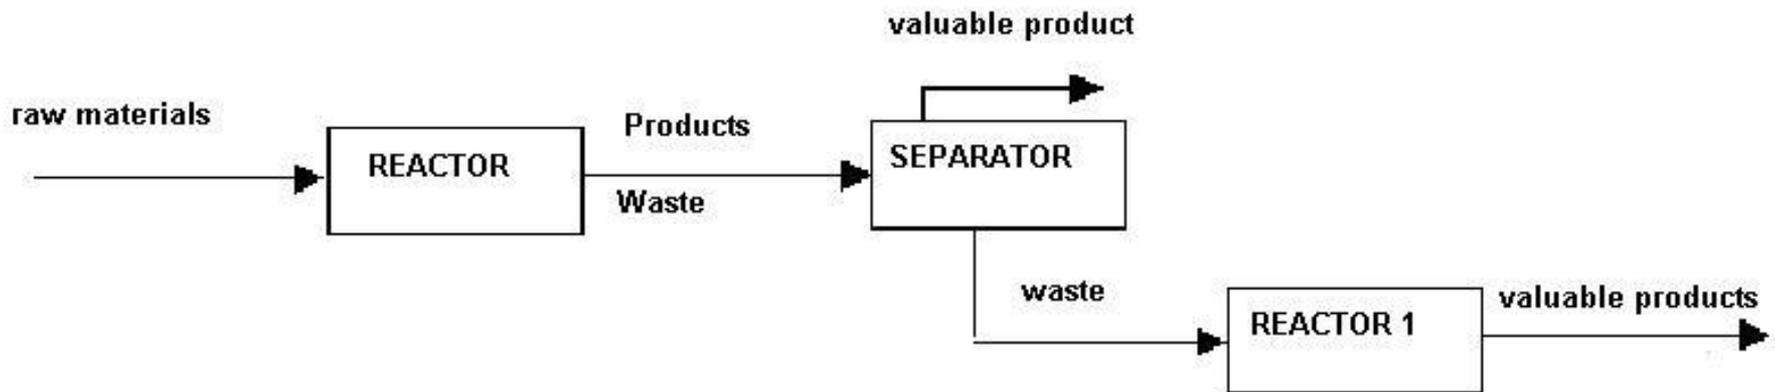

Fig. 5.5. On-site recycling
- **on site recycling:** the output is sent to a separator, while the unprocessed raw materials are sent as raw materials to another process (Reactor 1) belonging to the same industrial process, (Fig. 5.5):